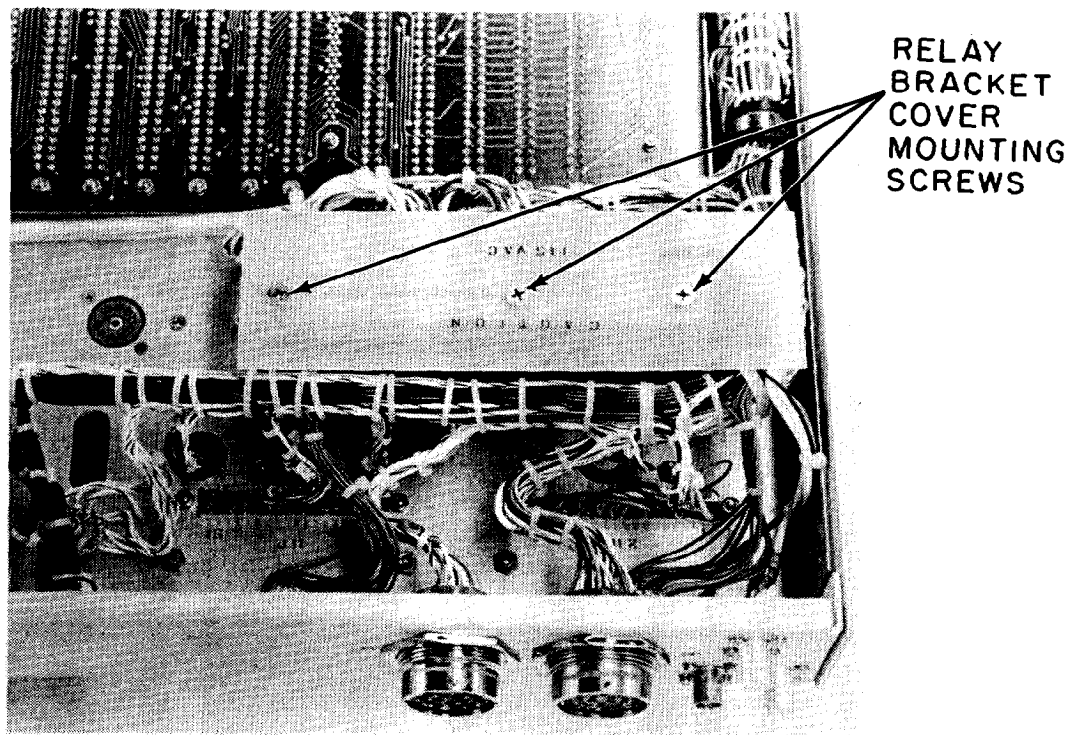

FIGURE 9
- E. Install replacement bracket assembly cover with screws provided, Figure 9.